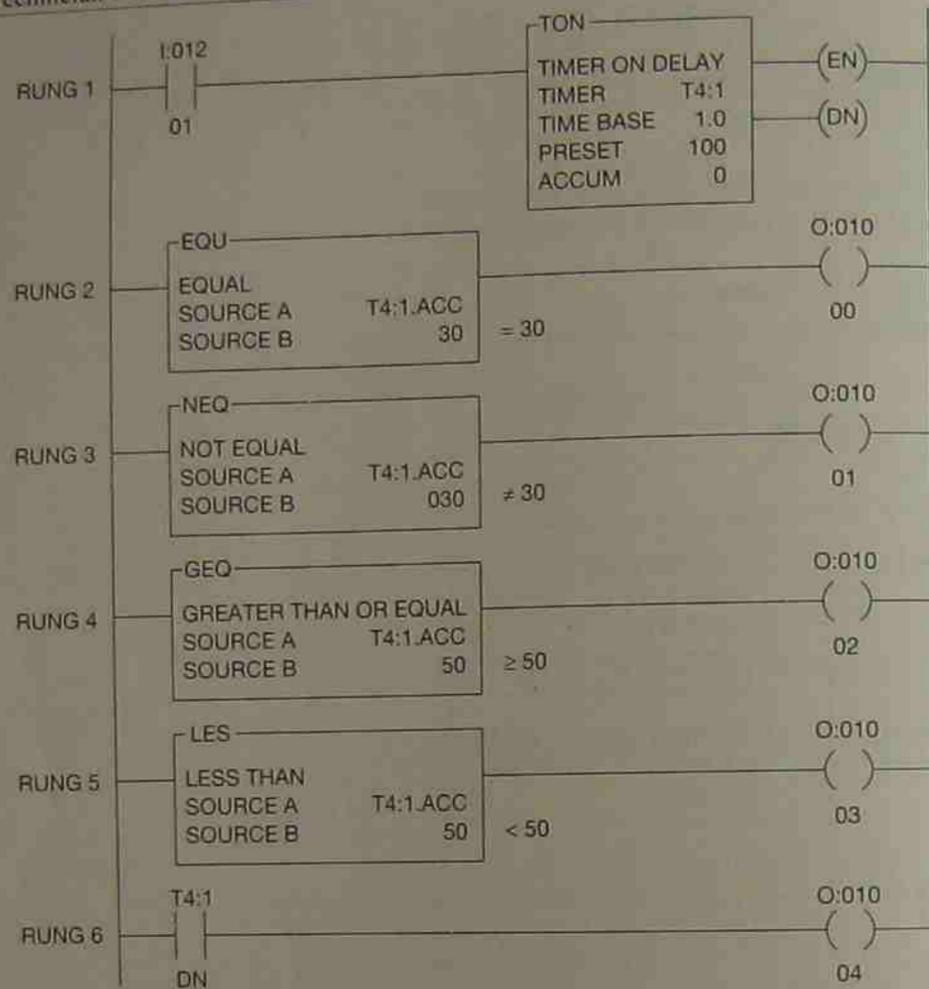
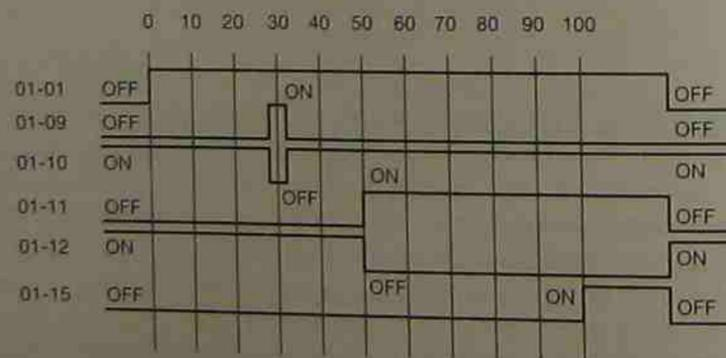

Figure 14-15 Data Compare Instructions
Figure 14-16 Time Chart for Data Comparisons
To further illustrate how the DATA COMPARE instructions work, consider the program in Figure 14-15 and the Time Chart for Data Comparisons in Figure 14-16.
Output O:010/04, the timer done bit (DN), comes ON at 100 when the accumulated value equals the preset value. The time chart in Figure 14-16 illustrates the ON and OFF states of the outputs in relation to time and the DATA COMPARE instructions.